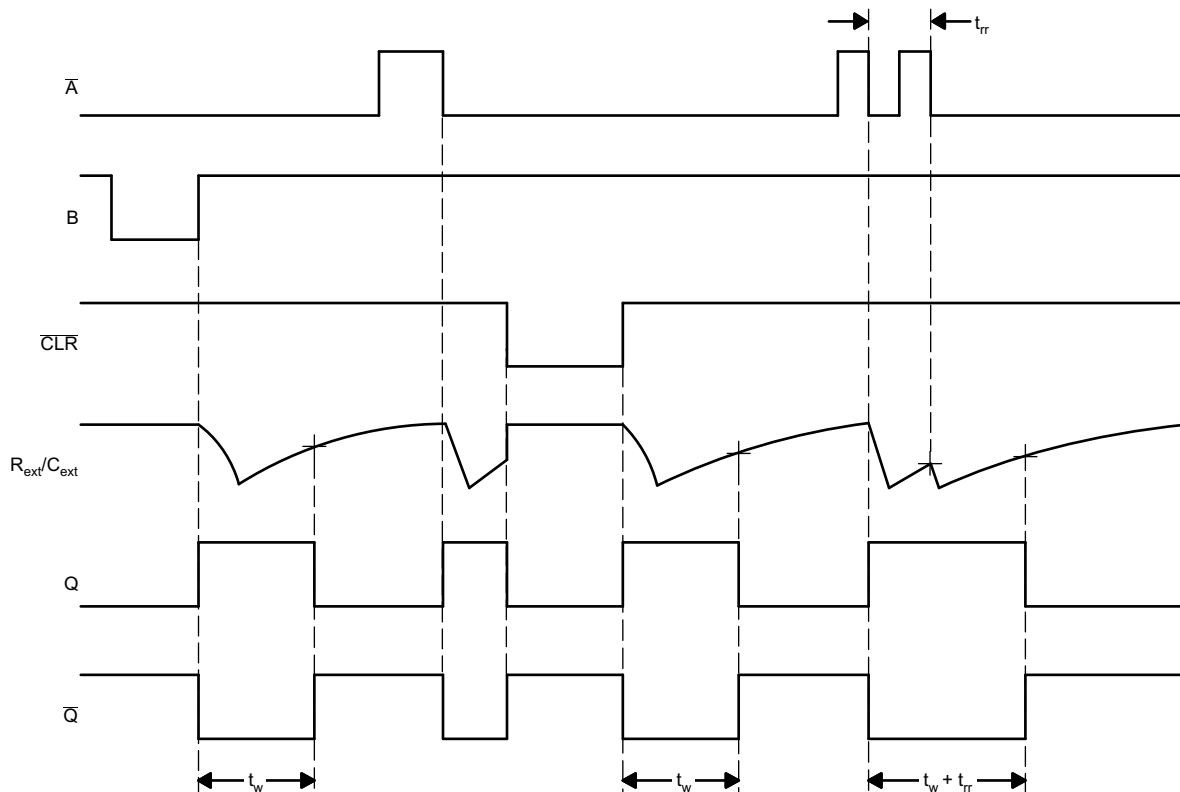

Figure 1. Input and Output (I/O) Timing Diagram
over recommended operating free-air temperature range, $V_{CC} = 3.3\text{ V} \pm 0.3\text{ V}$ (unless otherwise noted). See Figure 1 and the circuits in the Parameter Measurement Information section.
over recommended operating free-air temperature range, $V_{CC} = 5\text{ V} \pm 0.5\text{ V}$ (unless otherwise noted). See Figure 1 and the circuits in the Parameter Measurement Information section.
When triggered, the basic pulse duration can be extended by retriggering the gated low-level-active ($\overline{A}$) or high-level-active (B) input. Pulse duration may be reduced by taking $\overline{CLR}$ low. The input-output timing diagram (Figure 1) shows pulse control by retriggering the inputs and early clearing.